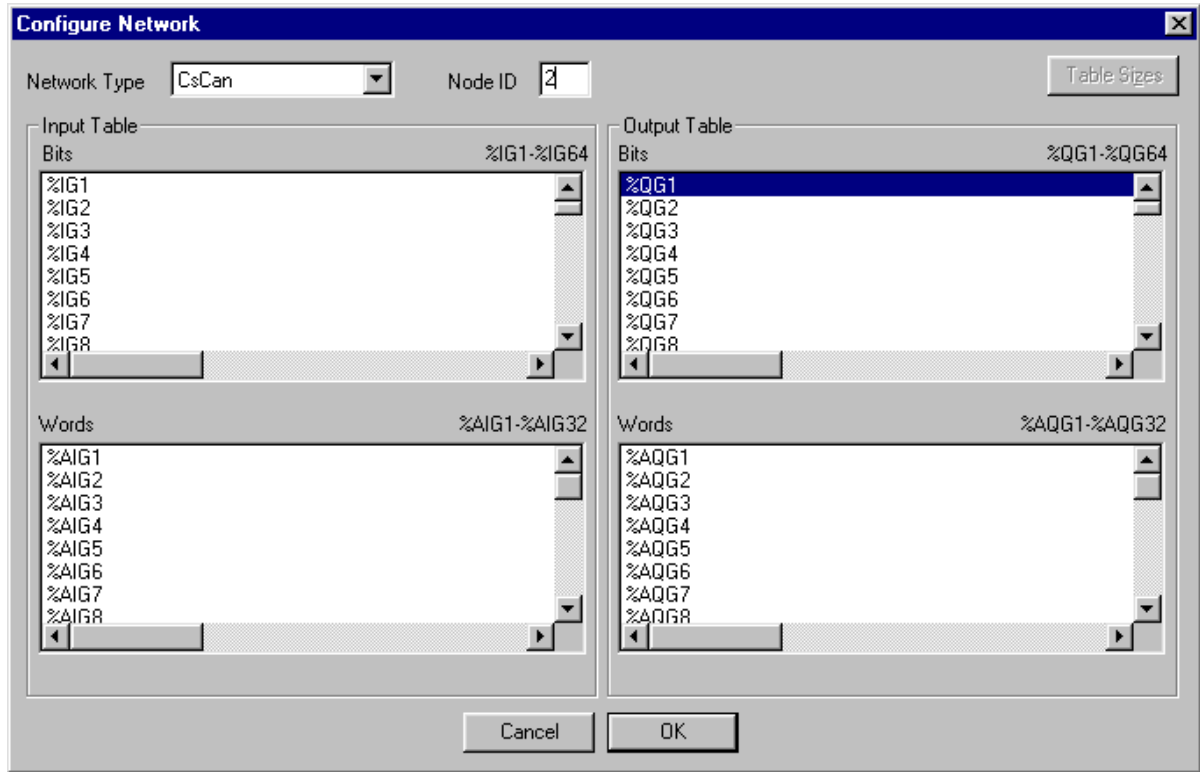

Figure 14.3 - Configure Network (Write)
5. To configure units to write a single bit register to the network select a specific %QG register from the list as per Figure 14.3 by double clicking on the register name.